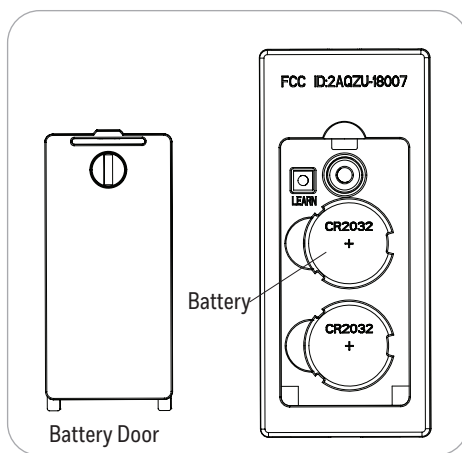

Figure 5.8
8. Remove the battery door from the back of the remote using a flat-head screwdriver (not included). Insert the two CR2032 batteries into the remote; ensure the positive pole of the batteries face up (as pictured) and then replace the battery door. Press the HIGH SPEED button to ensure the LED indicator illuminates and the fan turns on (Figure 5.8).